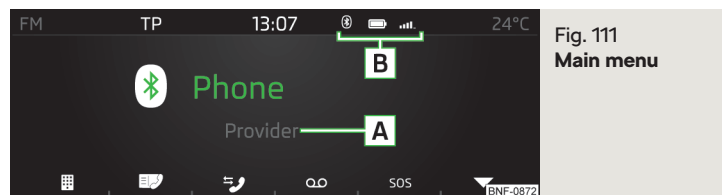

Fig. 111
- › Press in the main menu the *Telephone* function button » Fig. 111 on page 83.
► To display, from the Phone main menu, press the function button » Fig. 111 on page 83.
- Press in the main menu the *Telephone* function button ▼ » Fig. 111 on page 83.
- To **display**, from the *phonemain* menu, the function button » Fig. 111 on page 83.